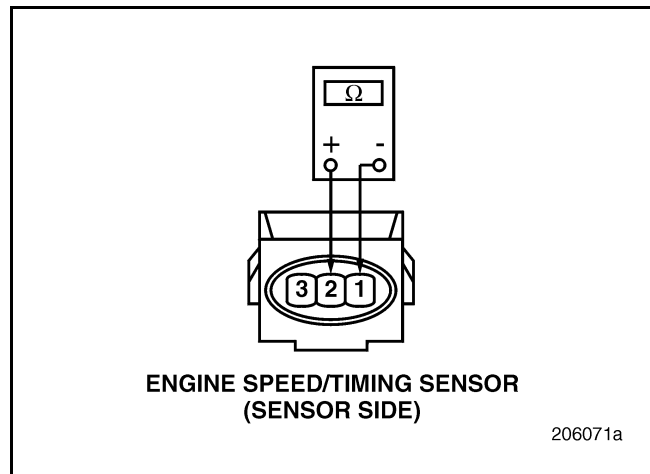

Figure 381
3. Measure the resistance between sensor terminals 1 and 2 (see Figure 381).